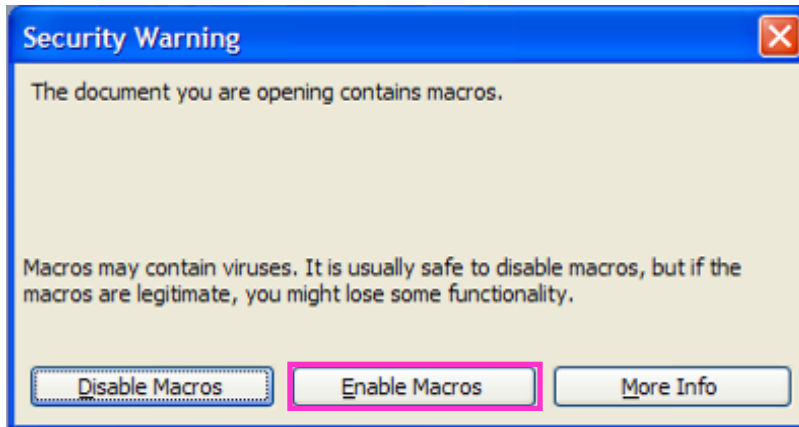

Figure 4: Security Warning window; click Enable Macros button.
Step 3a: If a Security Warning window appears, click the “Enable Macros” button (see Figure 4). If the window appears more than once, click the “Enable Macros” button each time.